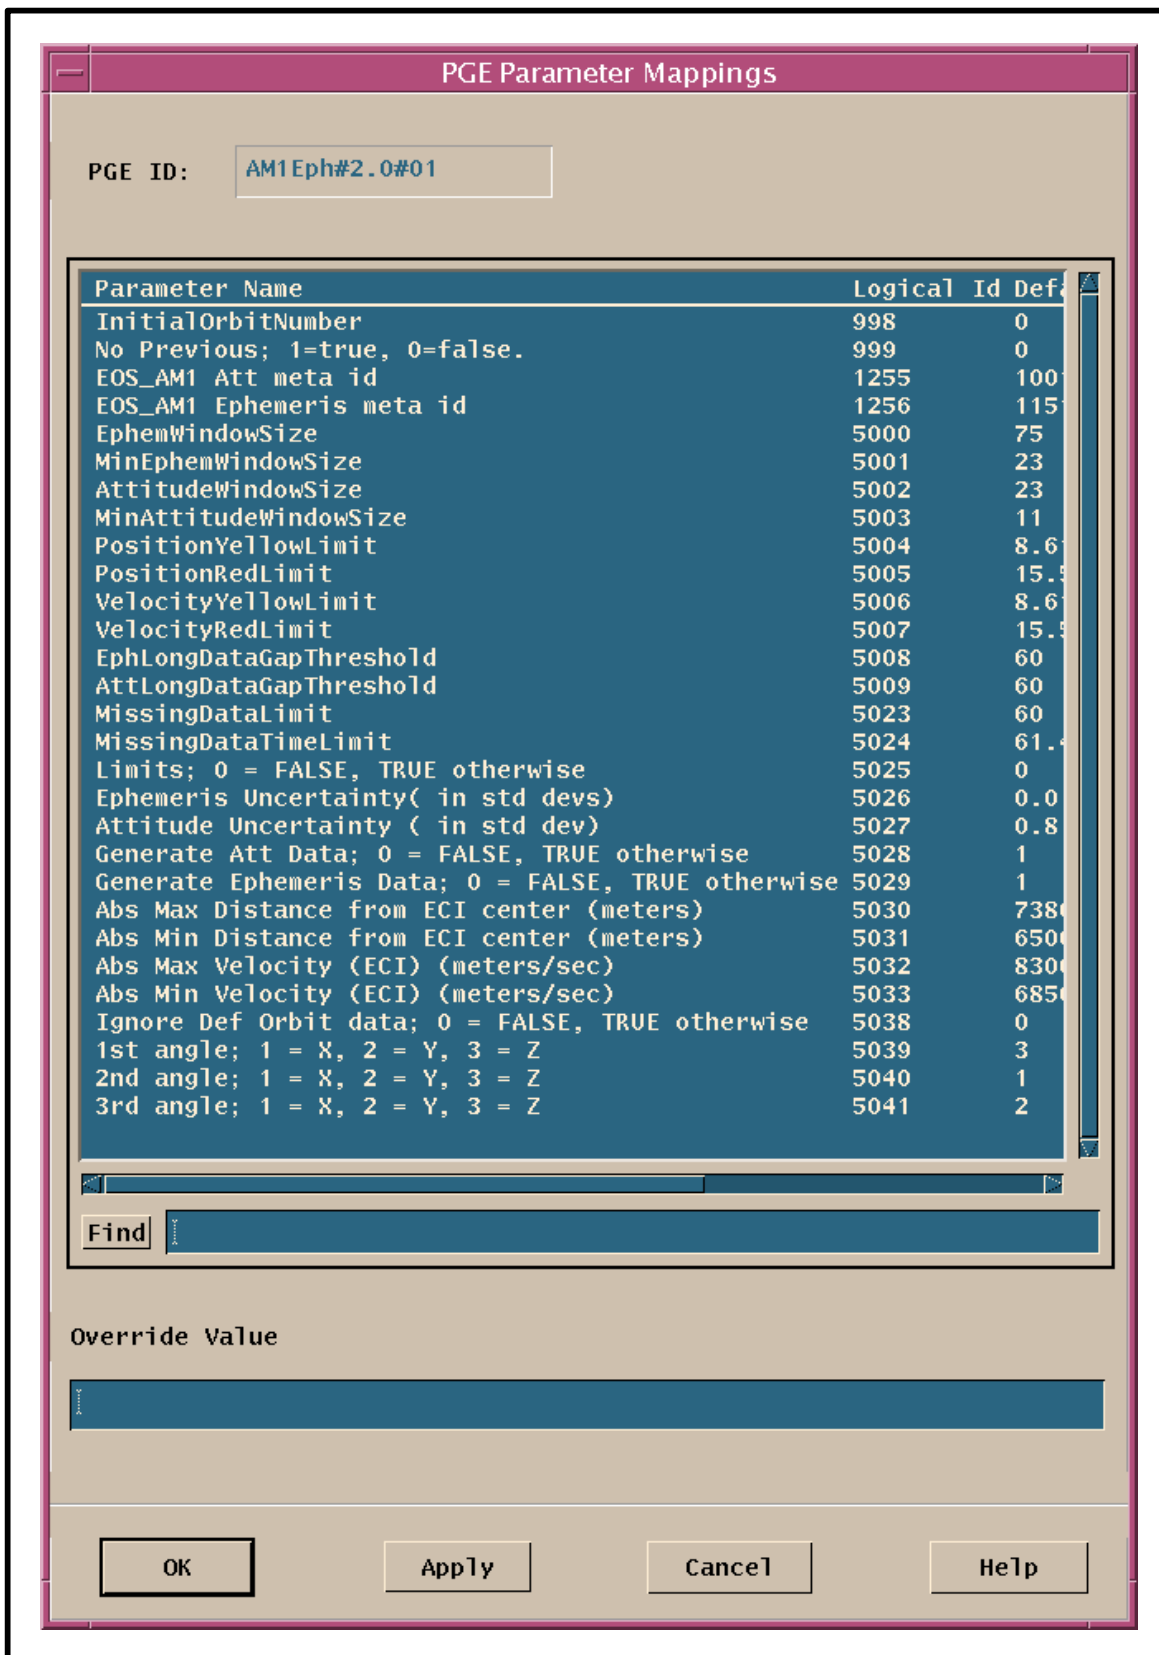

Figure 19. PGE Parameter Mappings GUI
- The **PGE Parameter Mappings** GUI page (Figure 19) is displayed.